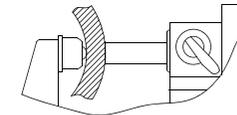

fig.4
6. Install spherical anvil on the anvil, the micrometer can measure tube thickness (fig.4).